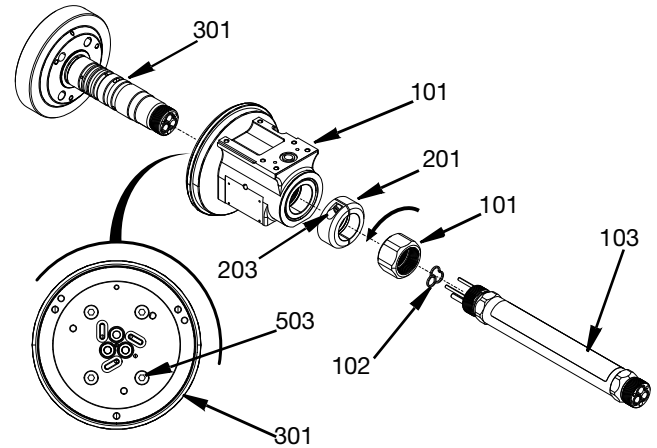

FIG. 19
1. Loosen the turnbuckle locking nut (101) by turning it counter clockwise as seen facing the main body of the SST Switch 3D Gun. The nut rotation will separate the long tube assembly (103) away from the center body (301). Discard adapter gasket (102).
2. Loosen the two M5 SHCS screws (203) with a hex key wrench and remove the lock ring assembly (201) along with the washer (202).
3. To release the pressure on the internal seals and ease disassembly, align access holes on the center body (301) with the four M6 screws (503) and loosen the screws.
4. Tap the center body (301) out of the swivel housing assembly (511) using a soft face mallet. See FIG. 19.